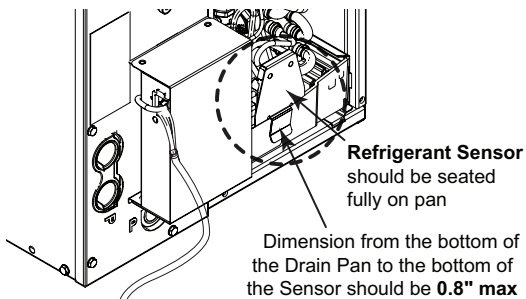

Figure 2
1. UPFLOW COIL CONVERSION: Ensure the refrigerant sensor is attached to the primary pan per Figure 2. The sensor should face inward toward the coil and may be positioned anywhere of the front lip of the pan. Ensure the mounting bracket is seated as far down on the pan as possible.
- c. Ensure the refrigerant sensor is attached to the primary pan per Figure 2. The sensor should face inward toward the coil and may be positioned anywhere of the front lip of the pan. Ensure the mounting bracket is seated as far down on the pan as possible.